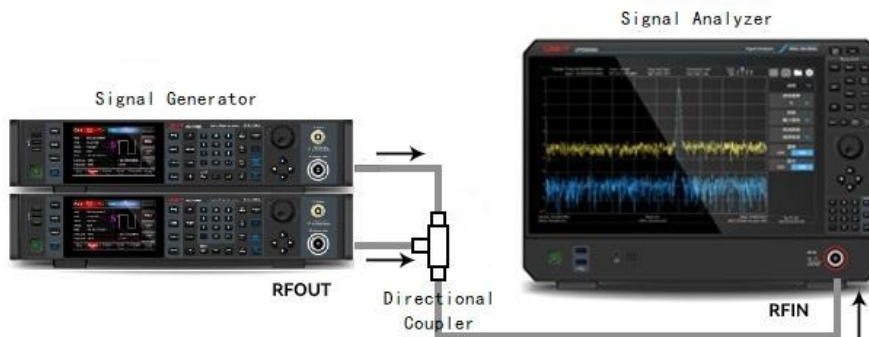

Figure 3-4 Instrument Setting for Acquiring Two-channel's Signal
- As shown in Figure 3-4, connecting two signal sources to the RF IN port of the signal analyzer via a directional coupler.
- As shown in Figure 3-4, connecting two signal sources to the input port of the signal analyzer.